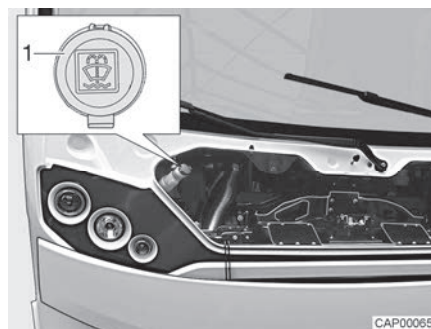

Fig. 8 Filler neck (windscreen washer fluid)
- Open the lid (Fig. 8,1) on the filler neck of the washer fluid container.